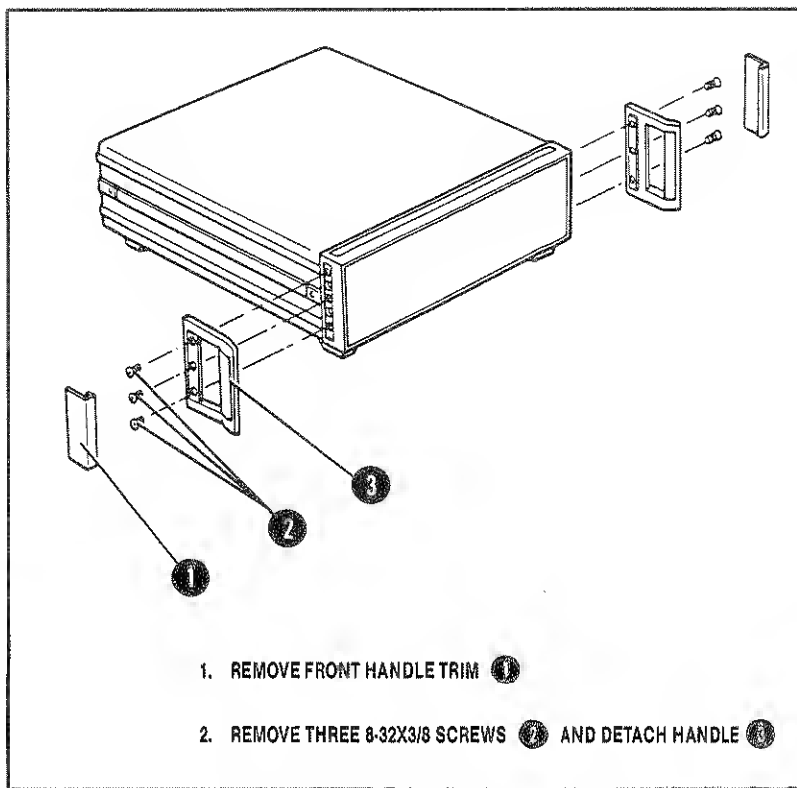

FIGURE 4. REMOVING FRONT HANDLES
To install some instrument options, the front handles need to be removed. See Figure 4 for instructions. When installing an option or replacing the handles be sure that the correct size screw (as indicated in the illustrations) is used to prevent damage to the instrument.
2. Remove the front handles on both instrument sections and replace with the 10 1/2 inch handles and/or the 10 1/2 inch rack mount brackets supplied with the kit. (Refer to Figure 4, 5, and 6.)